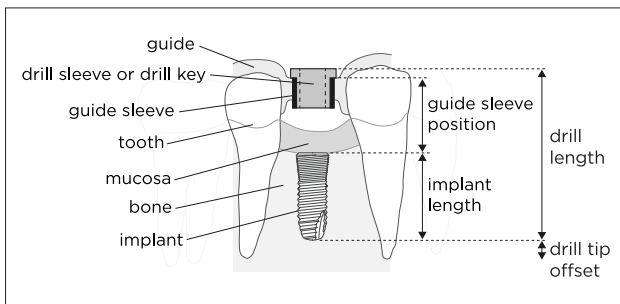

Figure 1
- The accuracy of the surgery depends on many different factors such as the quality of the (CB) CT scan, the quality of the impression, and the complexity of the surgery.
- The surgical guide with Universal solution and Pilot solution are used with the Siplant LongStop Drill System instruments to obtain a vertical stop during drilling. When using other surgical instruments with these guides, drill depth control has to be obtained visually, taking into account the drill length indicated on the surgical guideline delivered with the Siplant Guide File (Figure 1).
- The drill length indicated on the surgical guideline for LongStop Drills does not take the drill tip into account. The LongStop drill's actual length includes a drill tip offset (Figure 1).